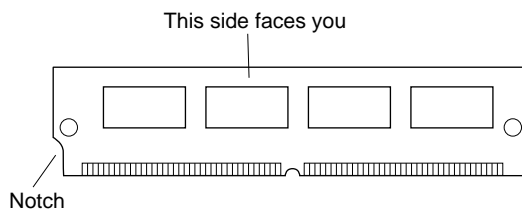

Figure 3-4 Orienting the SIMM When Facing the Rear of the Chassis
- Facing the rear of the system and using both hands, grasp the top of the SIMM so the notch in the bottom corner of the SIMM is on your left, as shown in Figure 3-4.